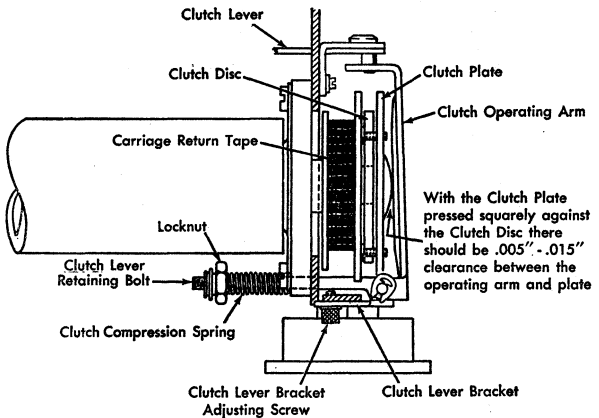

Figure 50. Clutch Plate Clearance Adjustment
18. CLUTCH PLATE CLEARANCE. Adjust this by positioning the bracket on the bottom of the right side frame. Obtain a clearance of $.005$ " to $.015$ " between the clutch operating arm and the clutch plate when the clutch plate is held firmly against the friction disc (Figure 50).
Open the exhaust port on the air cylinder cover. With the line space lever set for triple spacing and the left margin stop moved to the extreme left, adjust the clutch compression spring to insure a positive return on short returns of one to two inches as well as on medium and long returns. Lack of sufficient tension can contribute to a slow carriage return (Figure 50).